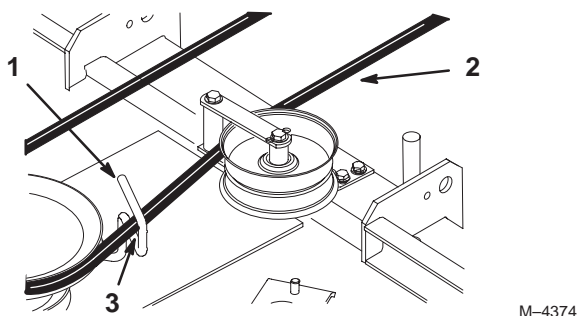

Figure 67
11. Rotate the belt guide, on rear of the mower, so it is 1/8-1/4 inch (3-7 mm) away from the vertical side of the PTO belt (Fig. 67).